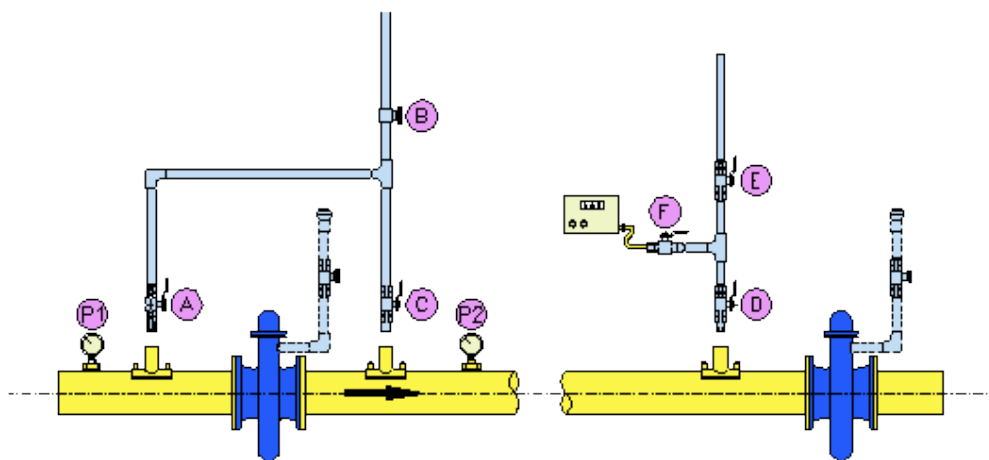

Figure 96- Direct Purge - Block and Bleed System
COMMISSIONING PROCEDURE USING A RIDER (SEE FIGURE 96)
3. Fit rider and purge vent pipes see Figure 96.